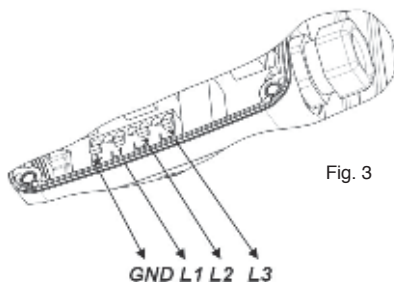

Fig. 3
- the pump should be installed directly onto the pipes, maintaining the pump axis 1-1 in horizontal plane (fig. 3).
The electrical connection must be carried out following the wiring diagram (fig. 3) given on the bottom of motor cover. Before proceeding with wiring, you should remove the top cover (fig. 1 - POS. 2)